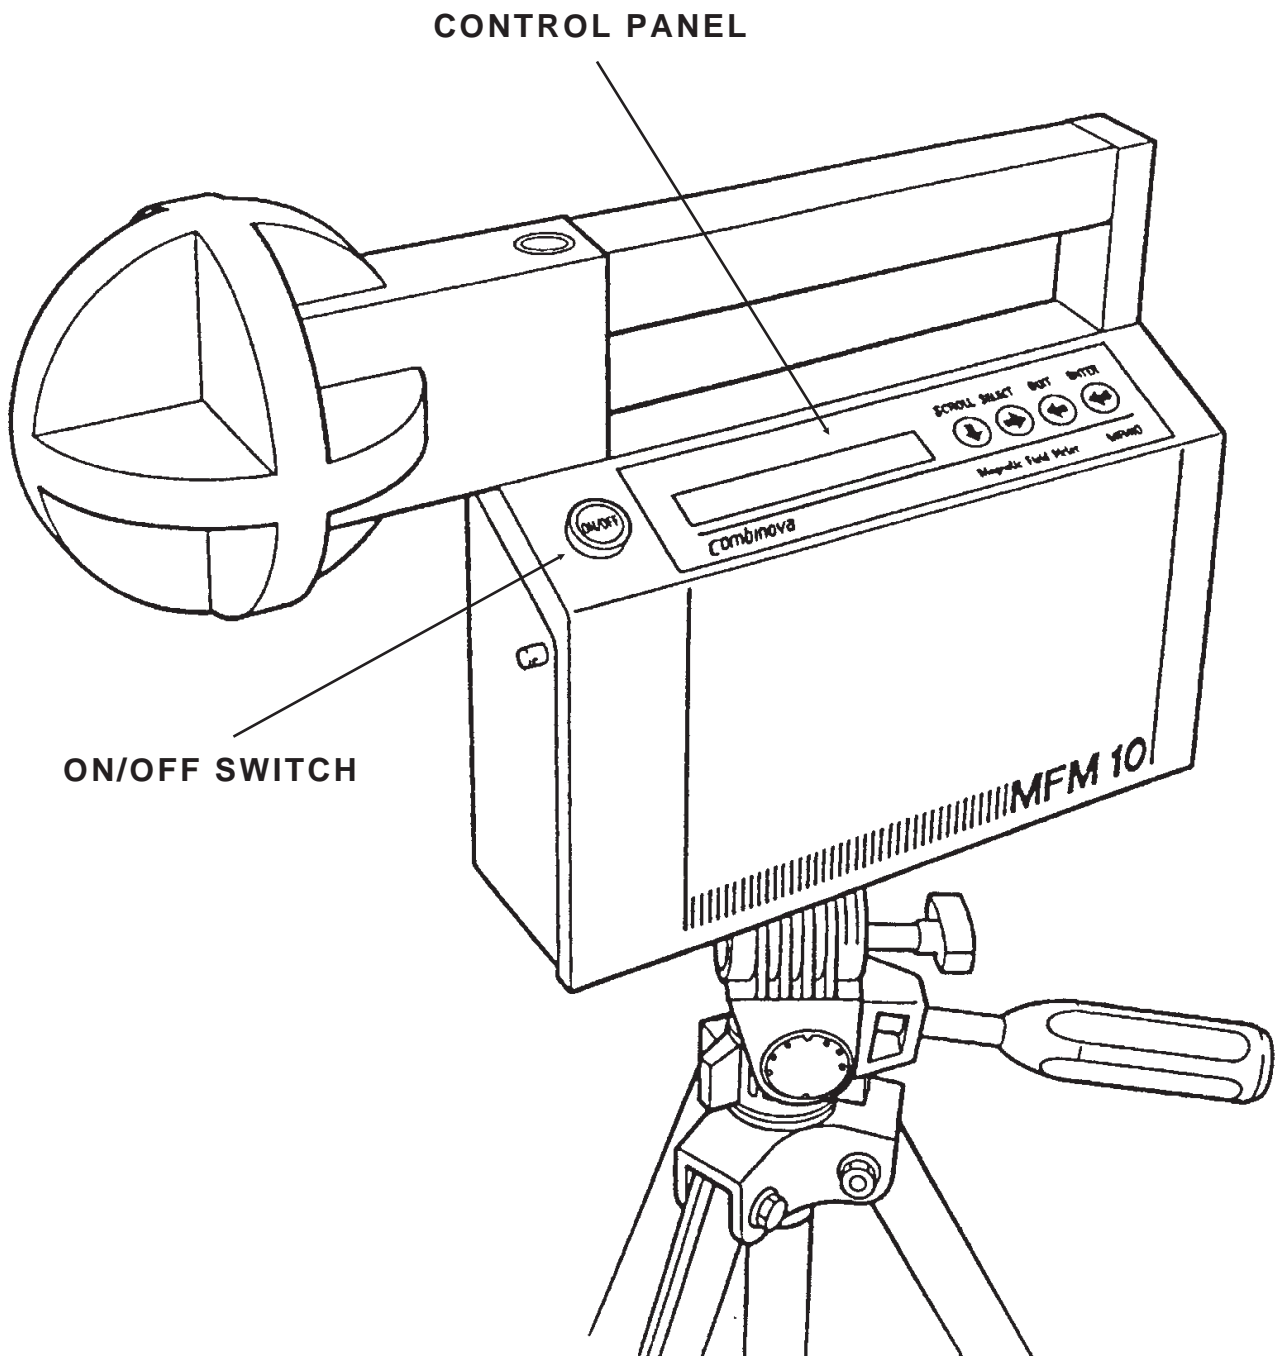

Fig. 2.2 MFM 10
- Switch on the instrument, using the ON/OFF button (see Fig. 2.2).